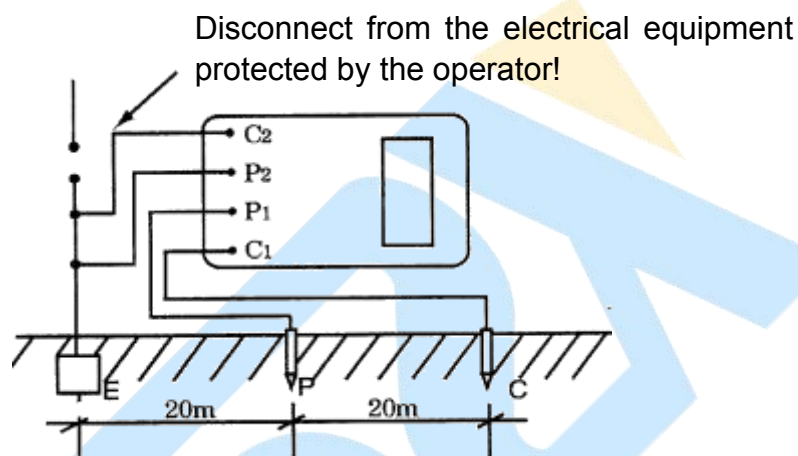

Figure 1
### 1. Grounding resistance measurement (Figure 1)
The measurement wiring is shown in Figure 1. The C1 plug is removed, the plug between E and P1 is retained, the ground voltage (EV) is activated, the indicator light is on, and the reading head value is the AC ground voltage between E and P1.